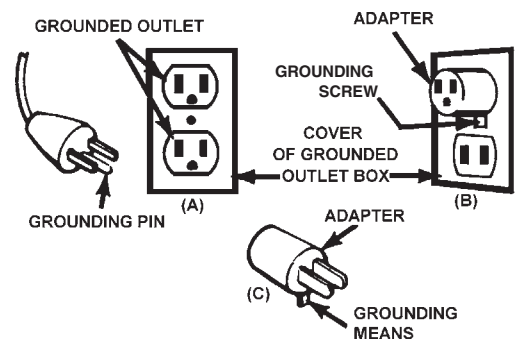

FIGURE 1 GROUNDING METHODS
Charger is equipped with an electric cord having an equipment grounding conductor and a grounding plug. The plug must be plugged into an outlet that is properly installed and grounded in accordance with all local codes and ordinances. This battery charger is designed for use on a nominal 120 volt circuit and has a grounded plug that looks like the plug illustrated in FIGURE 1 (A). This plug should be used in a grounded outlet. The plug pins must fit the receptacle (outlet).
**ADAPTER:** A temporary adapter, as shown in FIGURE 1 (B) and (C), may be used to connect the charger plug to a two pole receptacle (outlet), as shown in FIGURE 1 (B).